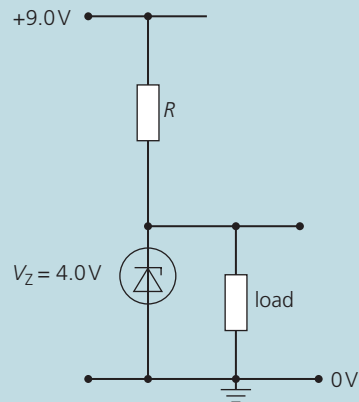

Figure 17
9. The circuit in Figure 17 shows a Zener diode connected as a voltage reference in series with a resistor R .